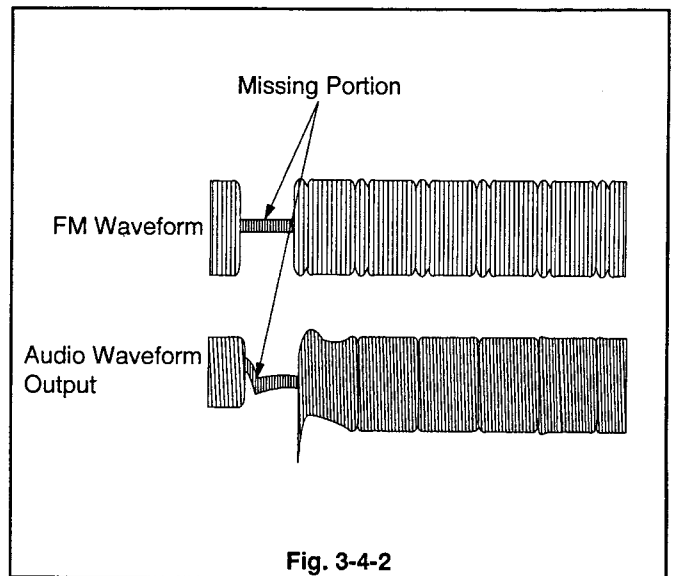

Fig. 3-4-2
7. Confirm the Missing Portions of the FM Waveform and Audio Waveform are as shown in the Fig. 3-4-2.
8. If the Missing Portions differ from the Fig. 3-4-2, repeat the procedure 3.